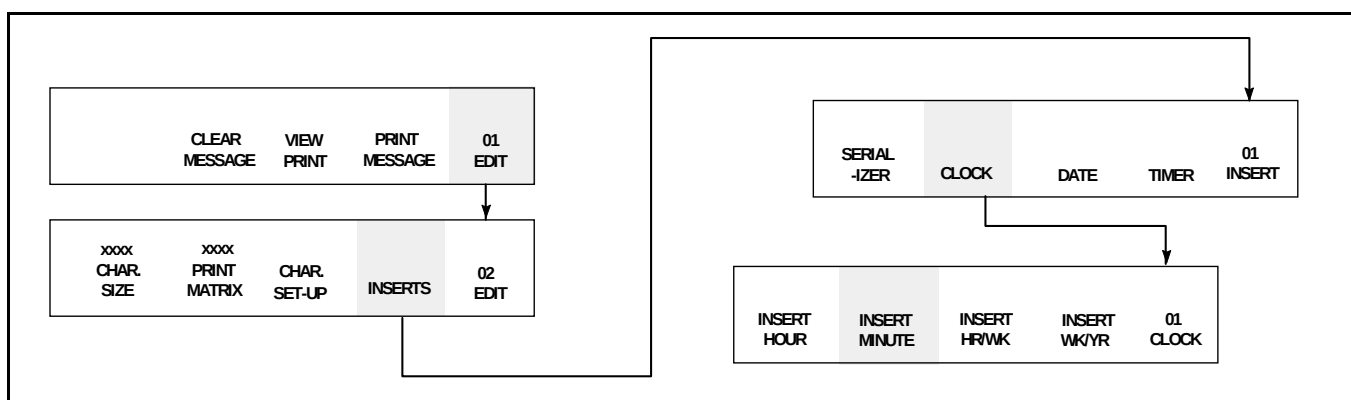

Figure 6-22. Accessing Frame <01 CLOCK>
1. Begin in Frame <01 CLOCK>. Refer to Figure 6-22.